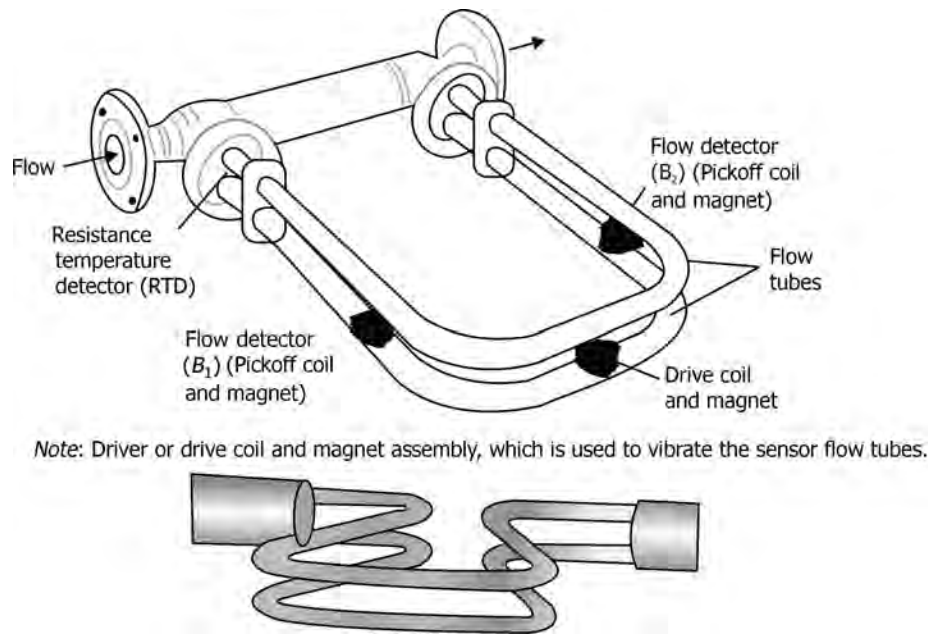

FIGURE 4.30 Double U-tube Coriolis mass flow meter designs.
- When there is no flow in a two tube design, the vibration caused by the coil and the magnet drive results in identical displacements at the two sensing points B_1 and B_2 as shown in Figure 4.30 (double U-tube design).